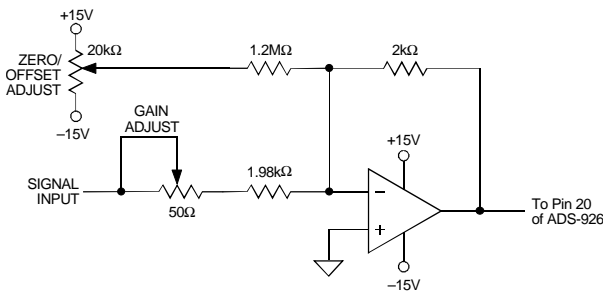

Figure 2. ADS-926 Calibration Circuit
Bypass all power supplies and the REFERENCE OUTPUT (pin 21) to ground with 4.7µF tantalum capacitors in parallel with 0.1µF ceramic capacitors. Locate the bypass capacitors as close to the unit as possible. If the user-installed offset and gain adjusting circuit shown in Figure 2 is used, also locate it as close to the ADS-926 as possible.
- need for external calibration. If required, the device's small initial offset and gain errors can be reduced to zero using the input circuit of Figure 2. When using this circuit, or any similar offset and gain-calibration hardware, make adjustments following warmup. To avoid interaction, always adjust offset before gain.
(Refer to Figures 2 and 3)
Any offset and/or gain calibration procedures should not be implemented until devices are fully warmed up. To avoid interaction, offset must be adjusted before gain. The ranges of adjustment for the circuit of Figure 2 are guaranteed to compensate for the ADS-926's initial accuracy errors and may not be able to compensate for additional system errors.
All fixed resistors in Figure 2 should be metal-film types, and multturn potentiometers should have TCR's of 100ppm/°C or less to minimize drift with temperature.